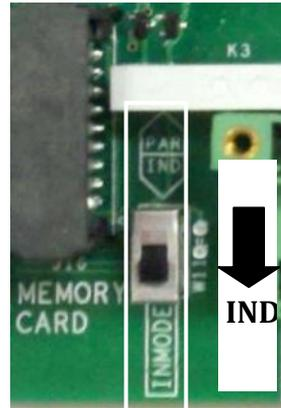

Figure 3.13- INdependent mode switch configuration Switch
- Place the “INMOD” switch (shown in Figure 3.13) in the “IND” (default position) position to configure the inverter controls in the independent mode.